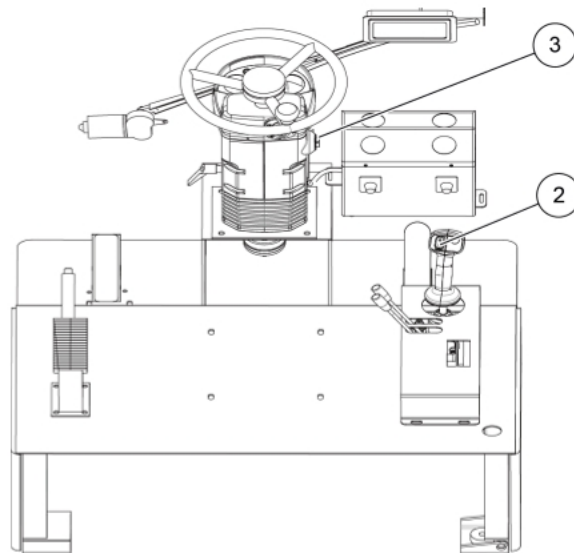

Figure 5-22 Operation platform
(1) Power switch
Step 3: Insert the key into the starting switch (3), the ignition switch is in "OFF" state (4), as shown in Figure 5-22 and 5-23;
Step 4: Check and make sure that the travel control switch (2) is in the middle position, as shown in Figure 5-22;